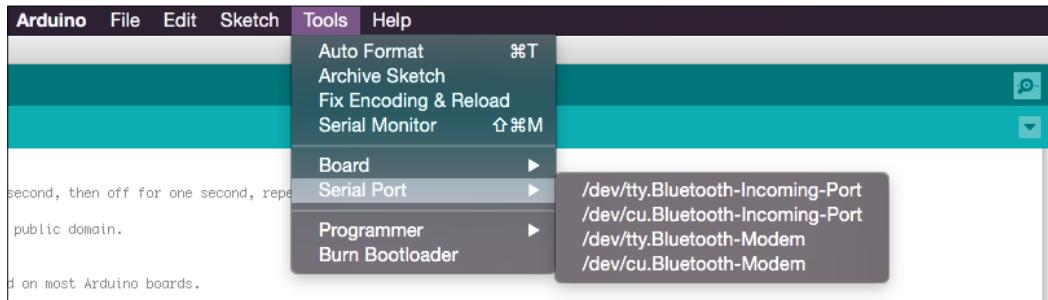
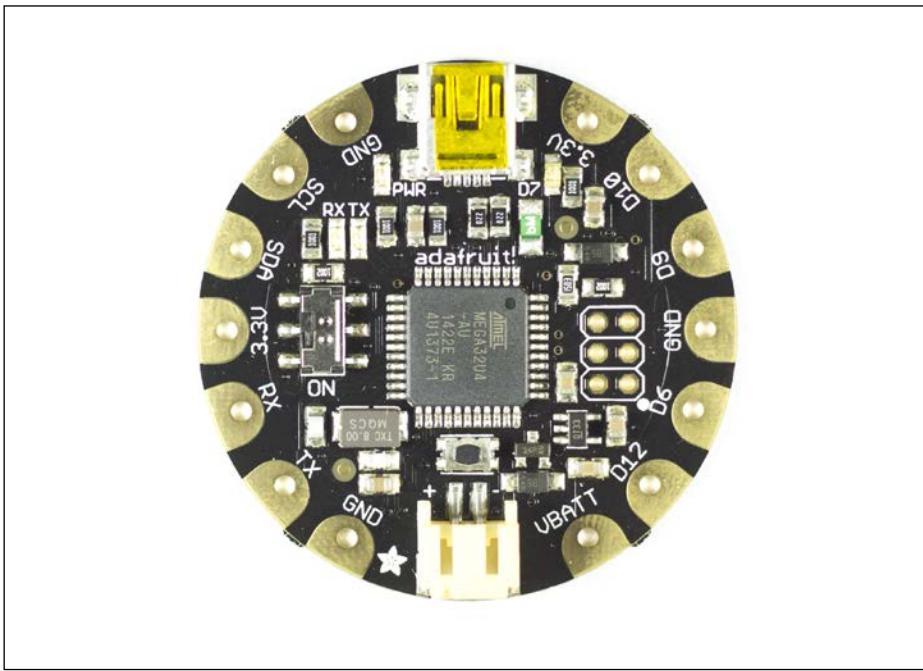
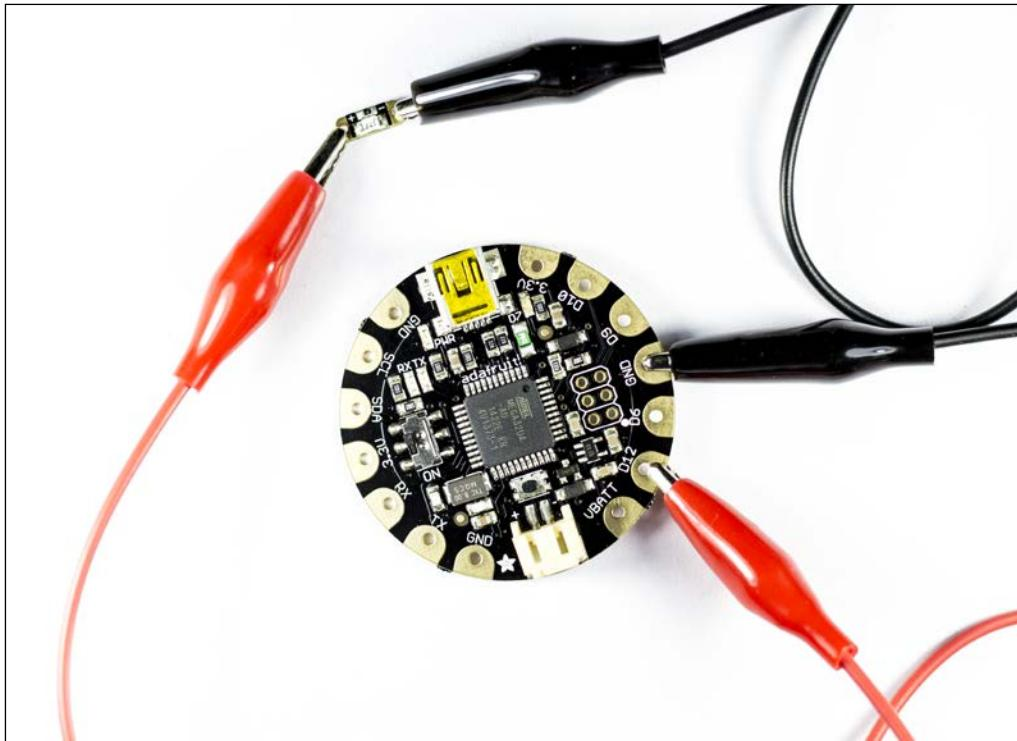

Figure 1.6: The Tools menu
Figure 1.7: The FLORA board
Figure 1.10. The LED connected to the board using alligator clips
In the following *Figure 1.7* you will find the FLORA board:
The biggest difference to normal Arduino boards besides the form factor is the number of pins available. The pins are the copper-coated areas at the edge of the FLORA. The form factor of the pins on FLORA boards is also a bit different from other Arduino boards. In this case, the pin holes and soldering pads are made bigger on FLORA boards so they can be easily sewn into garments, which is common when making wearable projects. The larger pins also make it easier to prototype with alligator clips, which we will be using later on in this chapter as shown in *Figure 1.10*. The pins available on the FLORA are as follows, starting from the right of the USB connector, which is located at the top of the board in the preceding *Figure 1.7*:
The pins available on the FLORA are as follows, starting from the right of the USB connector, which is located at the top of the board in *Figure 1.7*:
**TX**, **RX**, **SDA**, and **SCL** are pins used for communication, which we will have a look at later on in the book in the chapters dealing with more complex sensors. The **VBATT** pin can be used to output the same voltage as your power source, which you connect to the connector located at the bottom of the FLORA board shown in *Figure 1.7*.
In this sketch example, we will use an external LED, but if you want, you can stick with the on-board LED on the FLORA board. The LED used in following *Figure 1.10* is a special surface-mounted LED that is placed on a PCB. If you are using another LED, make sure to pair it with the right resistor. In the case of the custom LED found in *Figure 1.6*, the resistor is mounted on a PCB (printed circuit board). These LEDs are made with wearables in mind, and you can find them in most specialized electronic stores:
To connect the LED to the board, we used alligator clips. Alligator clips are normal wires with metal clips at the end that are great for prototyping, and work especially well with wearable Arduino boards like the FLORA. LEDs have a positive and a negative side to them. In the case of the LED in *Figure 1.10*, these are marked on the PCB with a + sign for the positive and a - sign for the negative side. The positive side connects to pin **D12** on the FLORA board, and to complete the circuit, the negative side connects to **GND**.